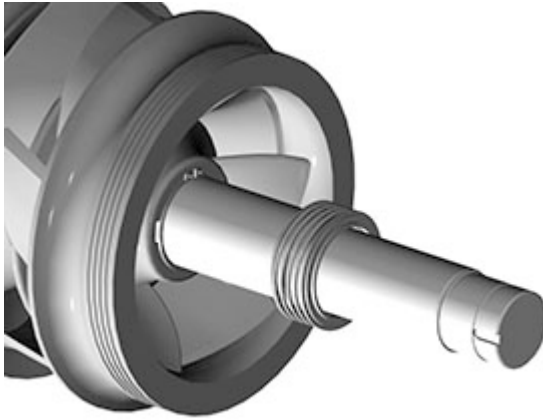

Figure 40: Mechanical seal head installed on shaft
14. Lightly coat the outboard end of the pump shaft with P-80 Rubber Lubricant Emulsion, vegetable oil, or equal and, after inspecting the seal for damages, slide the mechanical seal head onto the shaft. (see Figure 40)